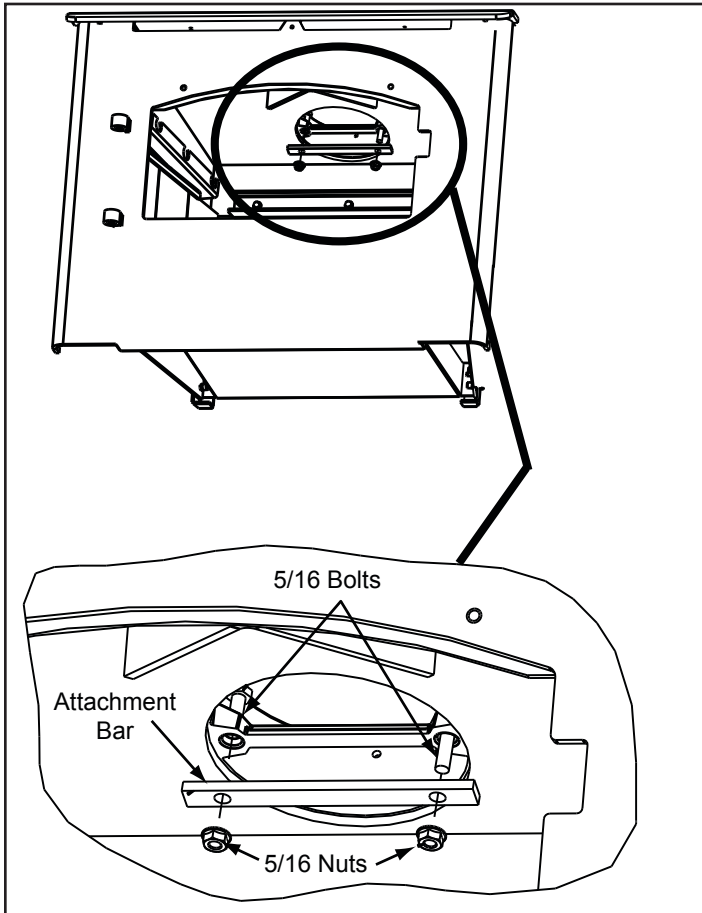

Figure 22.1
2. Reach up through the flue opening and grab the attachment bar and pull down inside flue opening. **Figure 22.1.**